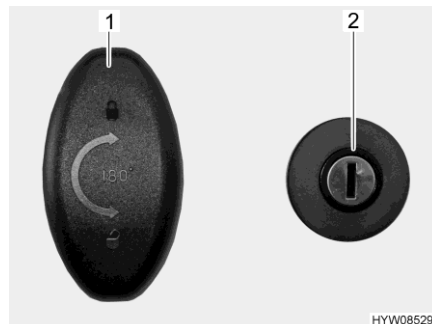

Fig. 55 Door lock (garage door)
- Put the key in the locking cylinder (Fig. 55,2) and turn in a clockwise direction. The central locking system is unlocked.
- Turn the lock handle (Fig. 55,1) through half a rotation in a clockwise direction and open the garage door.
- Turn lock handle (Fig. 55,1) one half turn in an anticlockwise direction.
- Insert the key in the locking cylinder (Fig. 55,2) and turn it in an anticlockwise direction. The central locking system is locked.